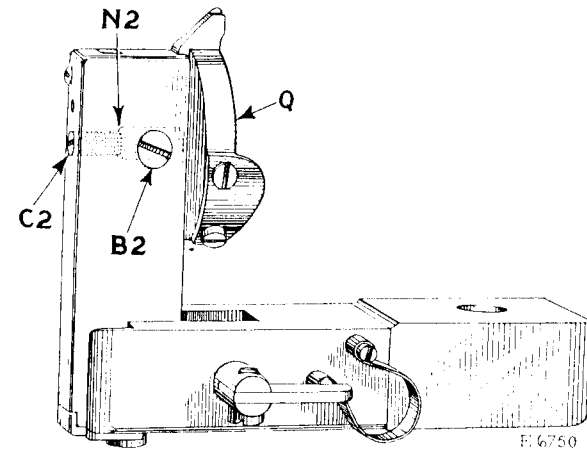

FIG. 24. VIEW OF BOBBIN CASE POSITION PLATE BRACKET SHOWING ADJUSTMENTS
The space between the bobbin case and bobbin case position plate (Q, Fig. 24) should be about .018 inch or just enough to
permit size 24 cotton thread to pass through freely. To increase the space, loosen the set screw (B2, Fig. 24) and turn the stop screw (C2, Fig. 24) outwardly. To decrease the space, turn the stop screw (C2) inwardly. When the desired space is obtained, firmly tighten the set screw (B2). Care must be taken to see that the shank of the bobbin case position plate (Q) always rests securely against the stop screw (C2) as shown at N2 in Fig. 24.